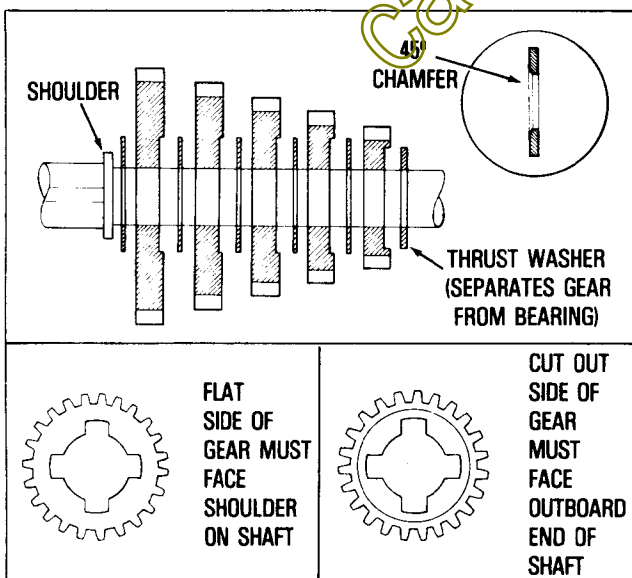

FIGURE 11
3. When ready to install thrust washers and shifting gears on shifter and brake shaft (as shown in the upper view in Figure 11), the 45° chamfer in the inside diameter of the thrust washers **MUST** face the shoulder on the shifter and brake shaft. See inset (Figure 11). The flat side of the shifting gears **ALWAYS** face the shoulder on the shifter and brake shaft.